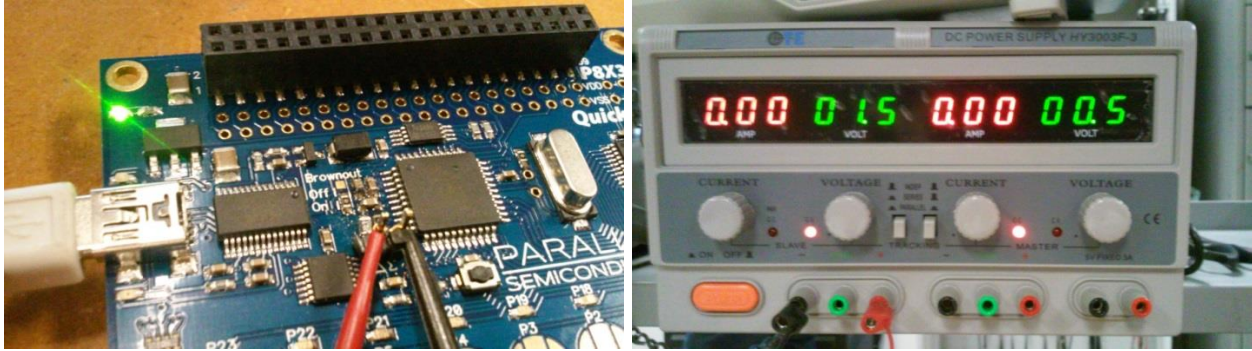

Fig. 10: Propeller Microcontroller attached to power supply (set at 1.5 V) as well as computer
11. Attach two (2) banana jack to grabber hook cables from the power supply to the microcontroller, and set the power supply to a voltage within the range 0 V – 3.3 V (1.5 V is used as an example in this tutorial) as seen in **Fig. 10**.